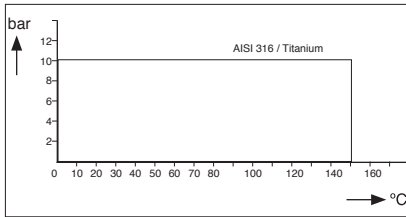

FIG. 1 Pressure / Temperature graphic
- Static conditions: see Fig. 1.